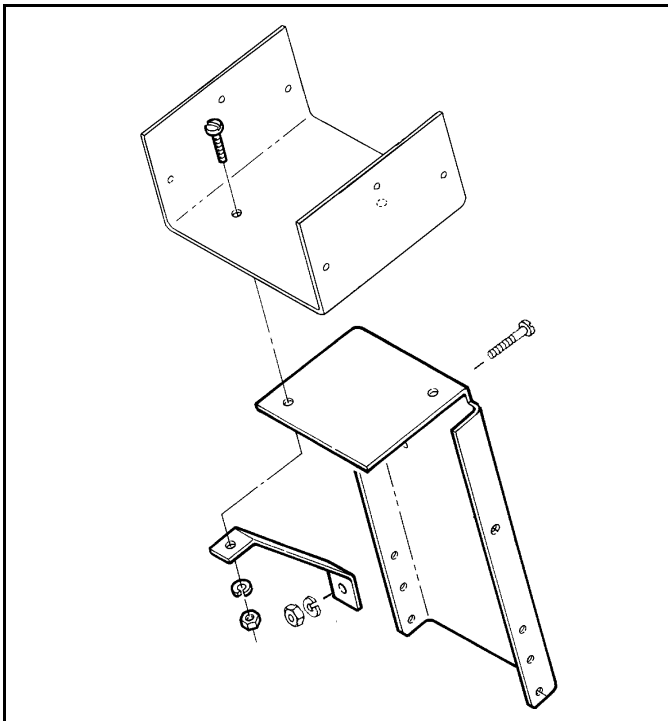

Figure 1-3
2. Position the Controller Housing Bottom Plate on top of the Stand Plate and fasten it with two #10-24 x 1/2" Round Head Machine Screws, Lock Washers and Nuts provided. (See Figure 1-3)